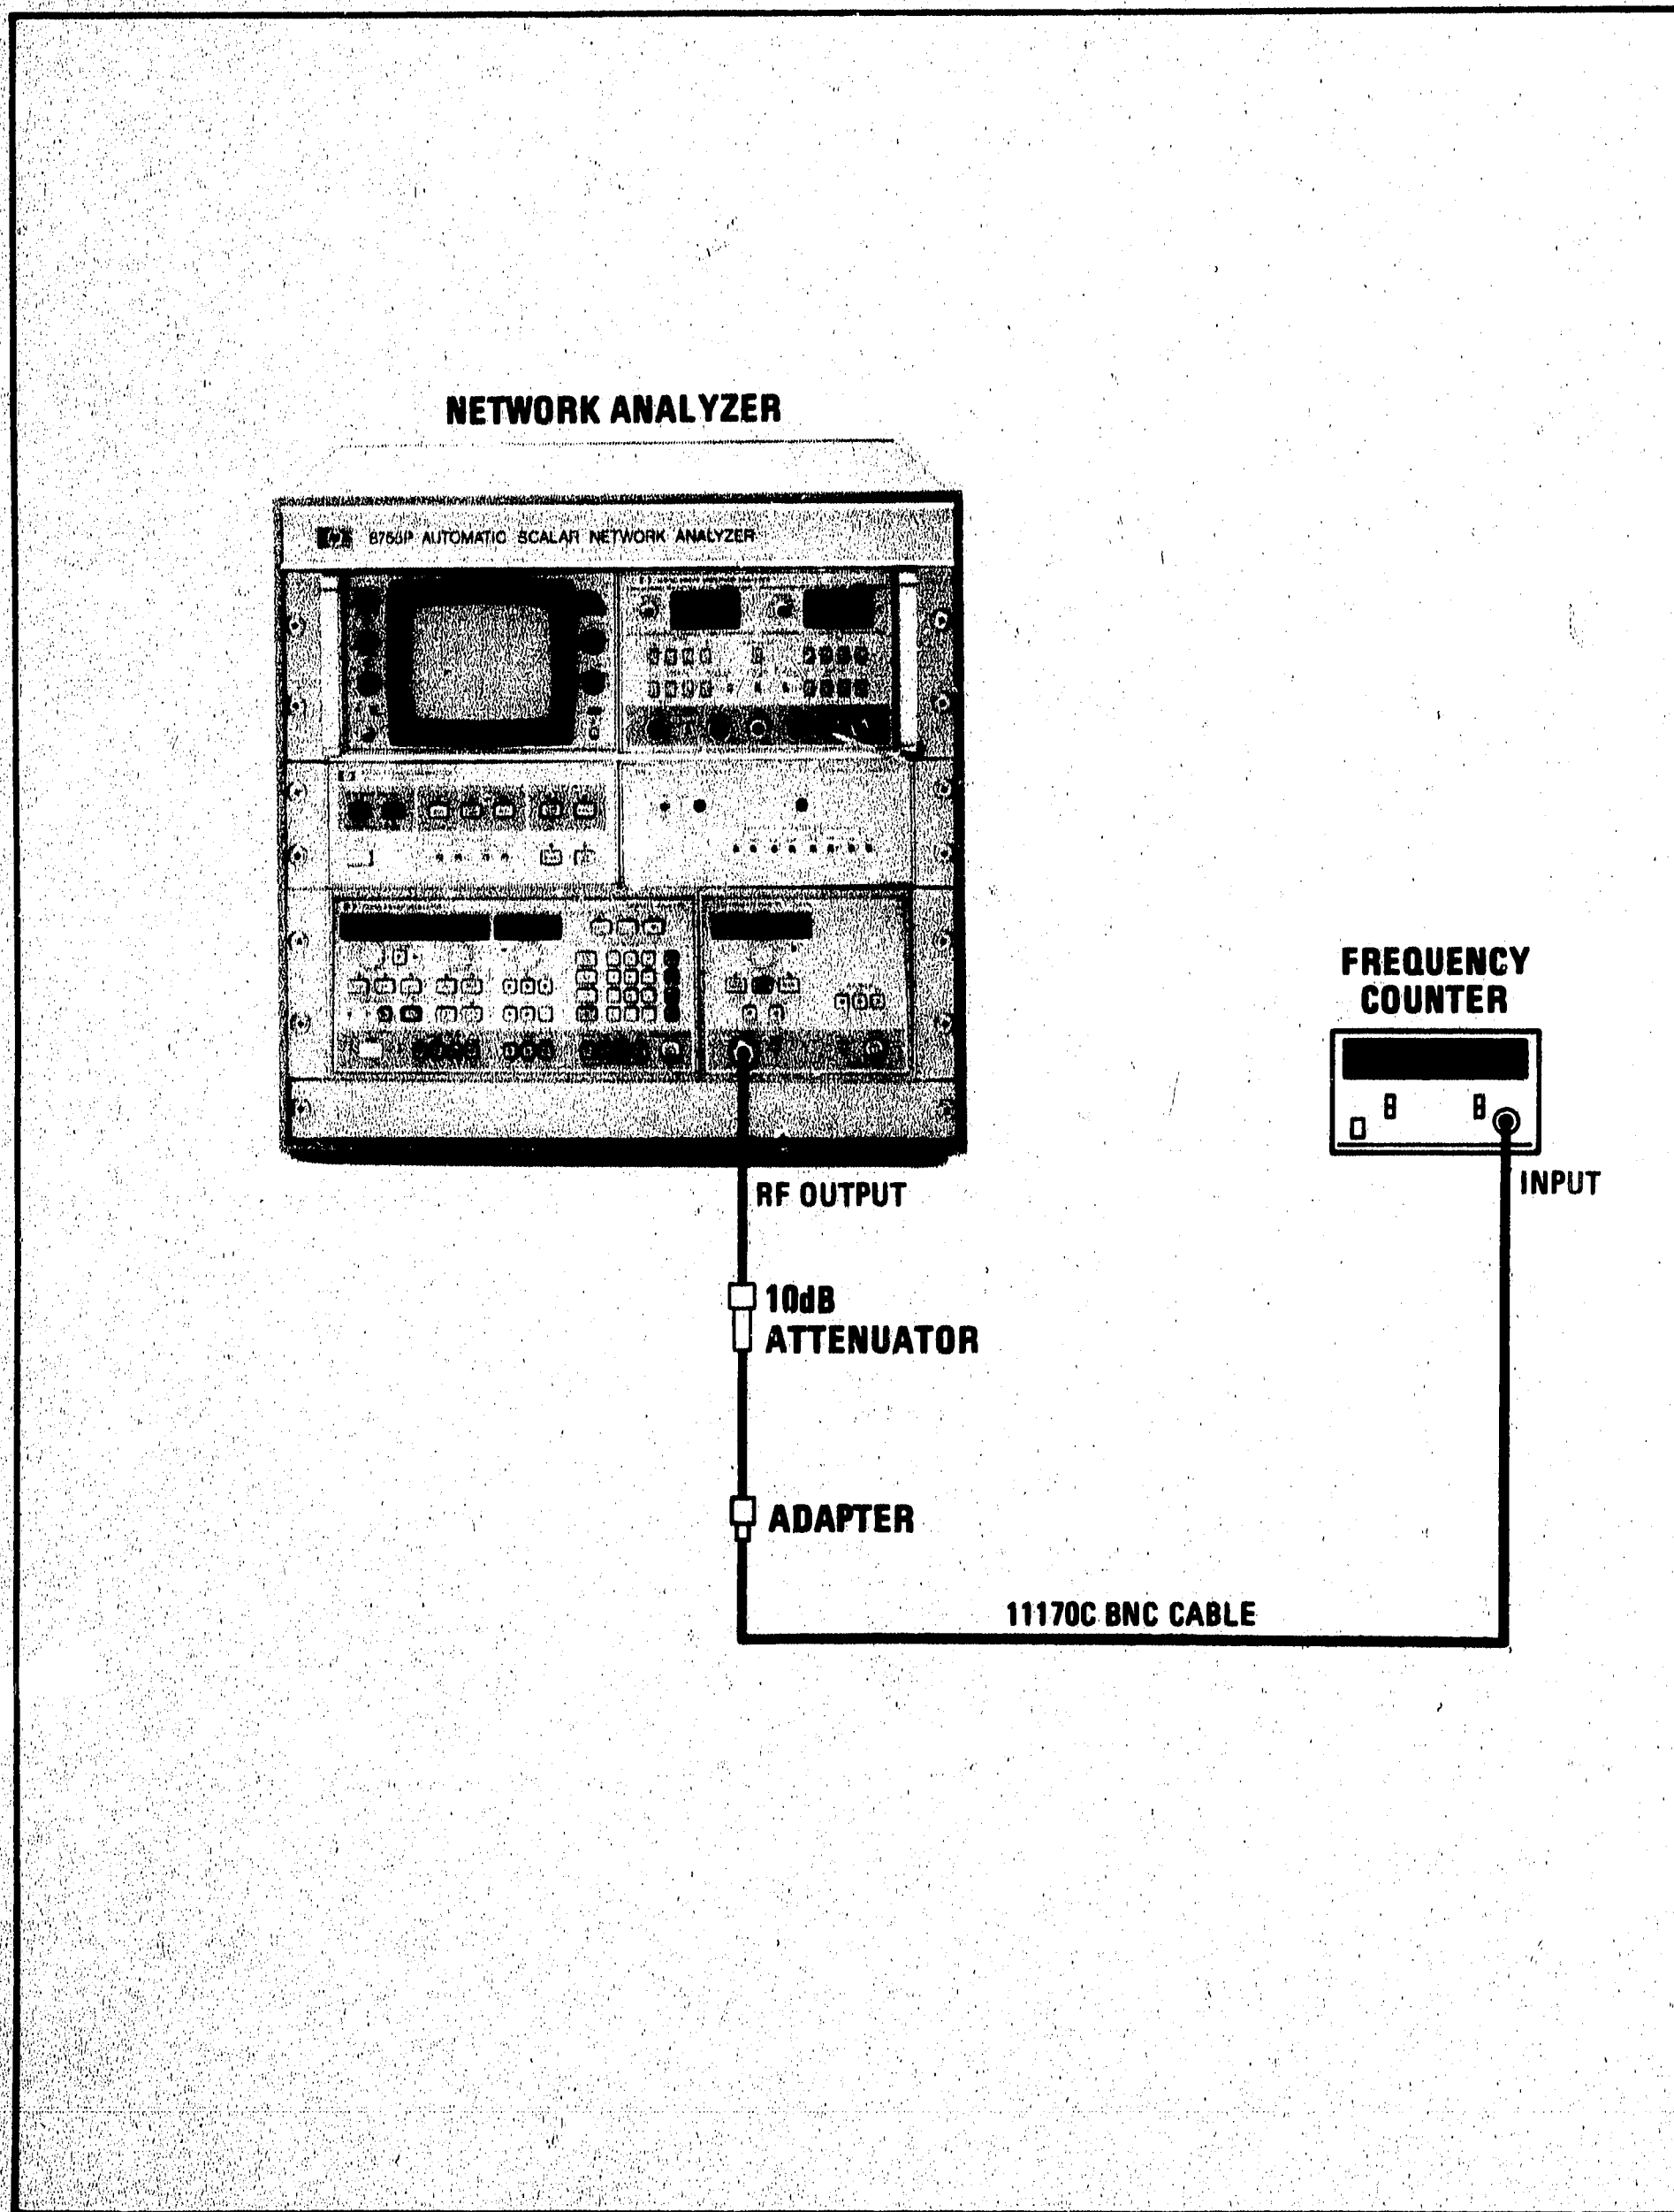

Figure 5-1. 83592A Frequency Calibration Adjustment Setup
1. Set up the equipment as shown in Figure 5-1.